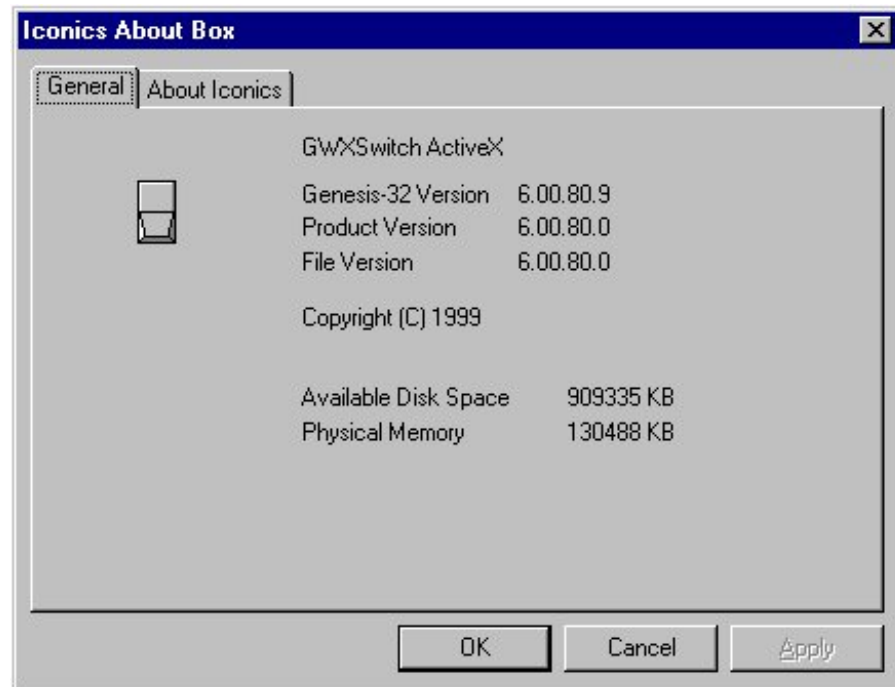

Figure 16-10: Iconics About Box
3. Select the About button. The Iconics About Box appears (Figure 16-10).